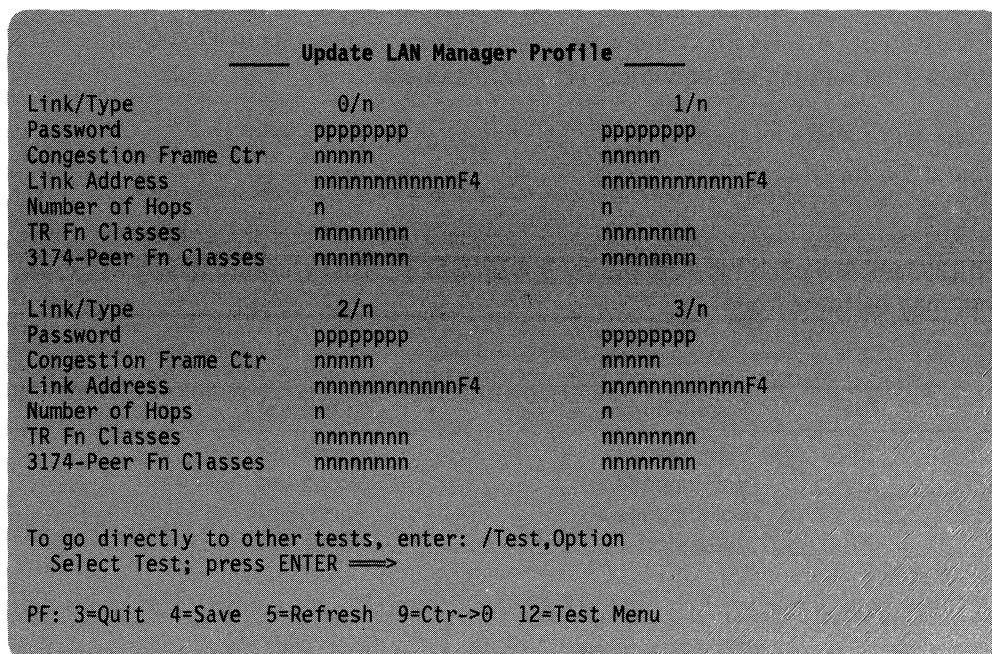

Figure 4-53. Update LAN Manager Profile Panel
**Test 9, Option 12,u (u=update):** Displays the LAN Manager Profile and shows information about each reporting link. You can run this test either in display mode or in update mode. To invoke the test in display mode, do not enter the **u**; enter the **u** for update mode. If you invoke the test in update mode, you will be prompted for the password that was set up in configuration question 98. You must have this password to enter update mode. Figure 4-53 on page 4-75 shows an example of the LAN Manager Profile panel in Update Mode.